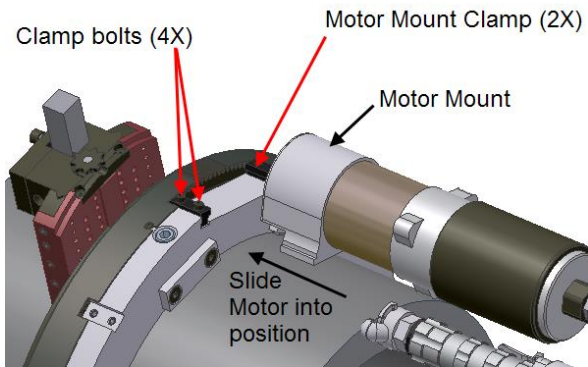

Figure 11
1. Loosen the four motor mount clamp screws. Position the motor mount toward the rear of the Clamshell (see Fig. 11).